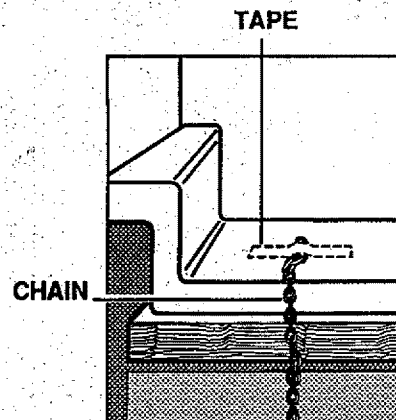

Fig. 4
3) Temporarily attach the loose end of the chain to the rear of the counter top with the tape from the packaging (See Fig. 4).